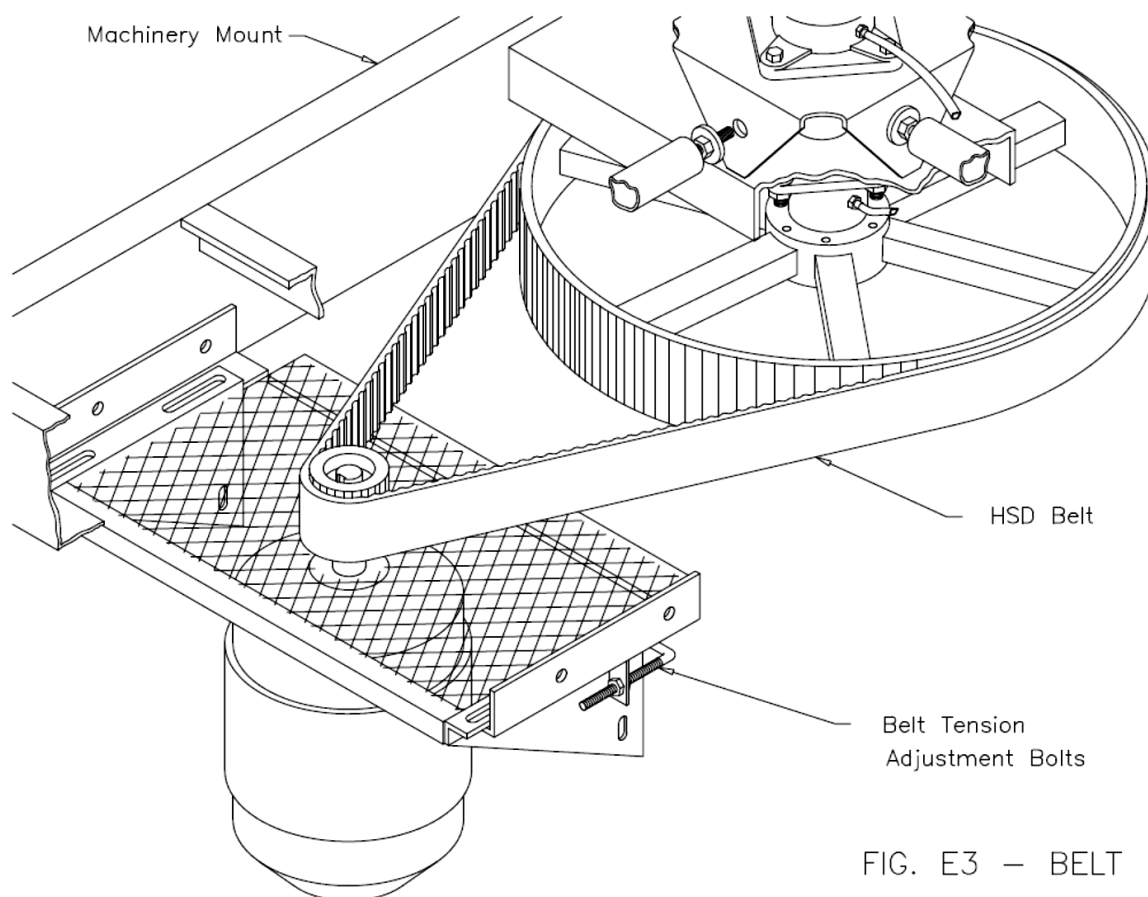

FIG. E3 — BELT
6. Install belts and adjust for tension. See Fig. E3 and sec 8.